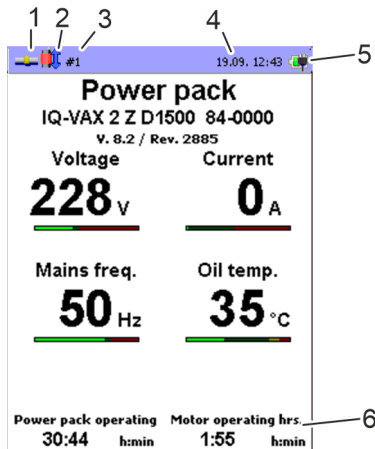

Fig. 36: Display elements
- ⇒ A proper connection between the hydraulic power pack and control unit (BE) is indicated in the connection status (Fig. 36/1) by .
- ⇒ If the data connection has been established between the control unit (BE) and the hydraulic power pack, the 'Power Pack Data View' menu is displayed.
5. ➤ If there is a faulty connection between the control unit (BE) and the hydraulic power pack (connection status ) ensure that the adapter cable has been connected correctly.
9.6 Preloading with the control unit (BE)